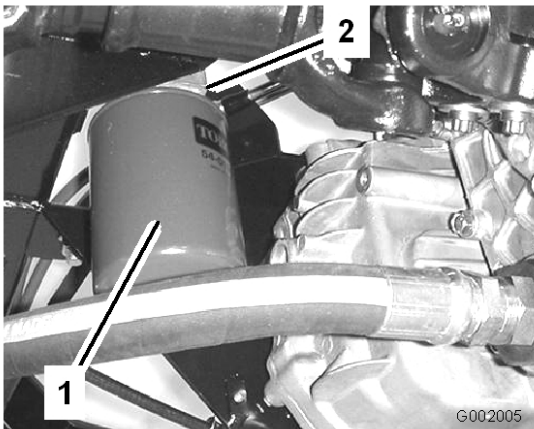

Figure 65
4. Remove the filter (Figure 65).